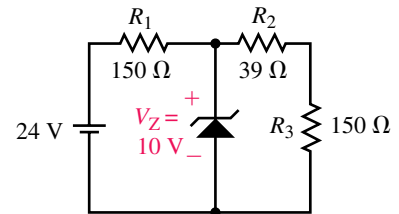

FIGURE 7-60
17. Solve for all currents and voltage drops in the circuit of Figure 7-60. Verify that the power delivered by the voltage source is equal to the power dissipated by the resistors and the zener diode.